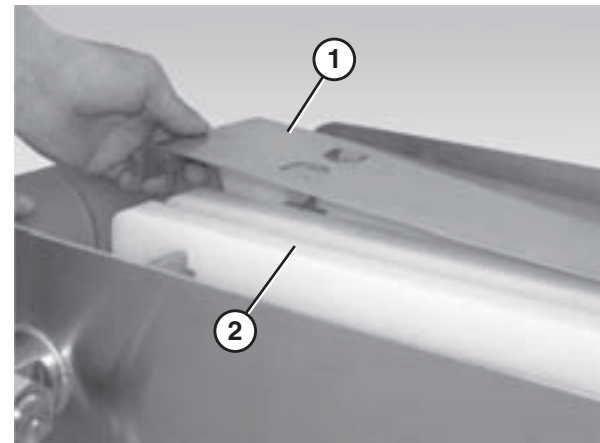

Figure 24
2. Place the sheet bed plates (Figure 24, item 1) over the wear strips (Figure 24, item 2).